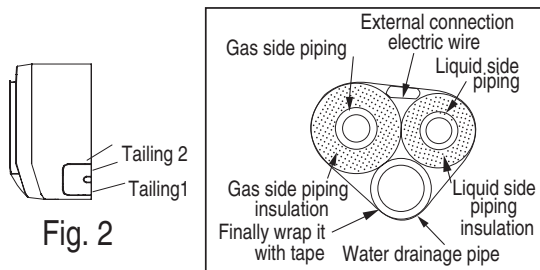

Fig. 2
1. When installing piping and wiring from left or right side, cut off the tailings from the chassis. (See Fig. 2.)